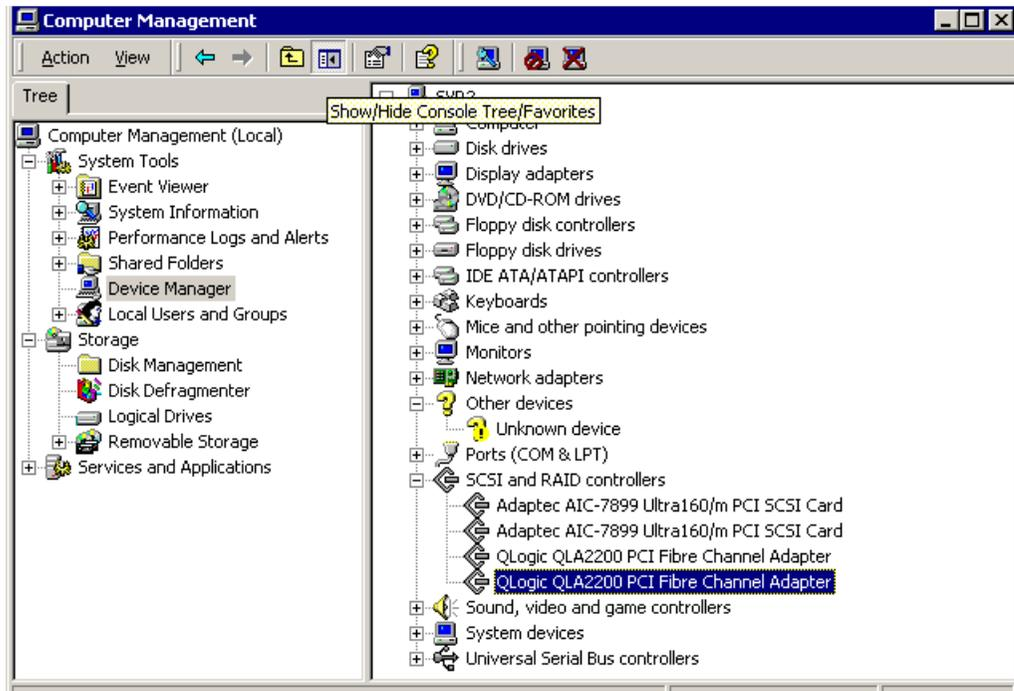

Figure 3-7 IBM xSeries FASTt Host Bus Adapter driver update completed
6. Repeat steps 3 to 5 above for the second IBM xSeries FASTt Host Bus Adapter in the machine. Now Computer Management should appear as shown in Figure 3-7: